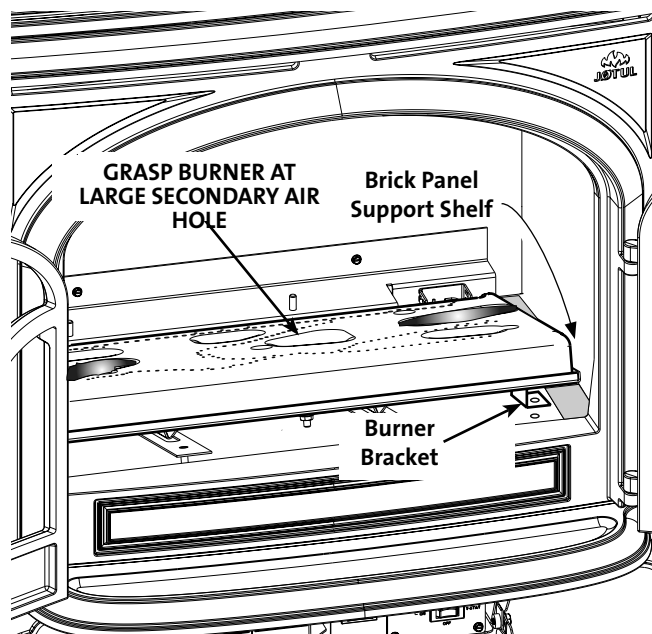

Figure 27. Pull the Burner assembly forward and up to disengage it from firebox.
5. Lift the Brick Panel Support Shelves from the firebox floor to access and remove two #8x 1/2" sheet metal screws that secure the Burner Brackets to the floor. See figs. 27 and 56,
6. Grasp the burner at the large secondary air hole and pull the assembly up and forward to disengage it from the burner injectors. Tilt the assembly to fit through the door opening. See fig. 27.